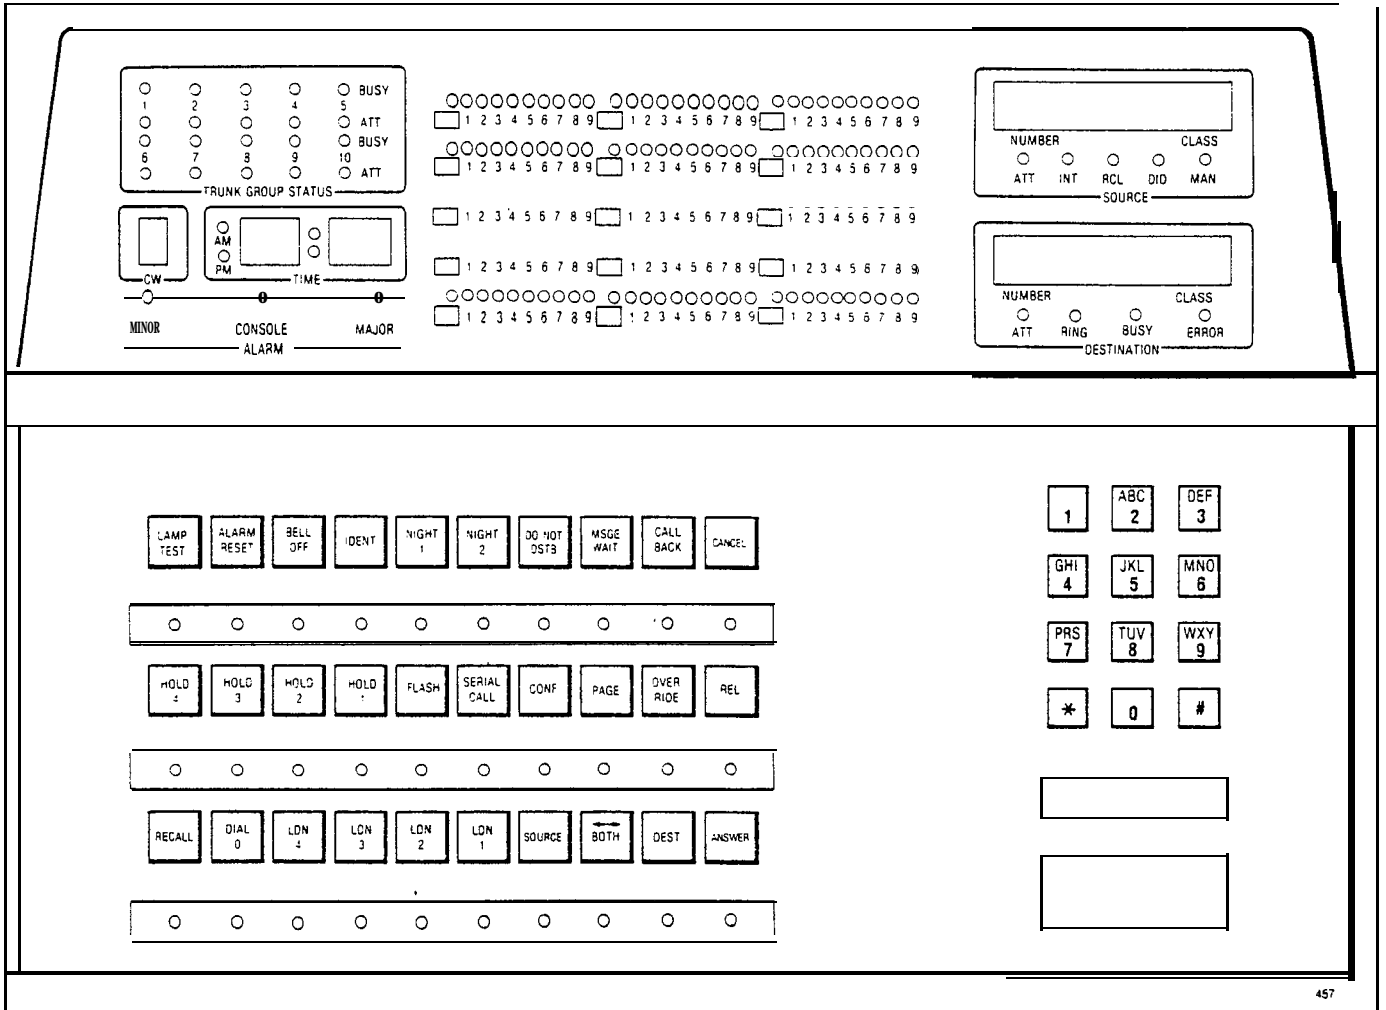

Fig. 4-1 Attendant Console Faceplate
4.01 The attendant console faceplate layout is shown in Fig. 4-1. The following description